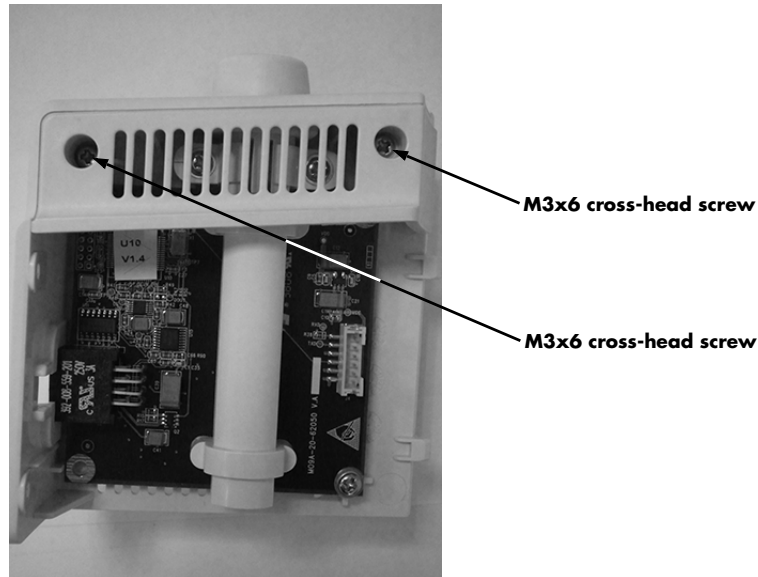

FIGURE 4-26 Remove Two (2) M3x6 cross-head screws
1. Remove the two (2) M3x6 cross-head screws (as shown in Figure 4-26).